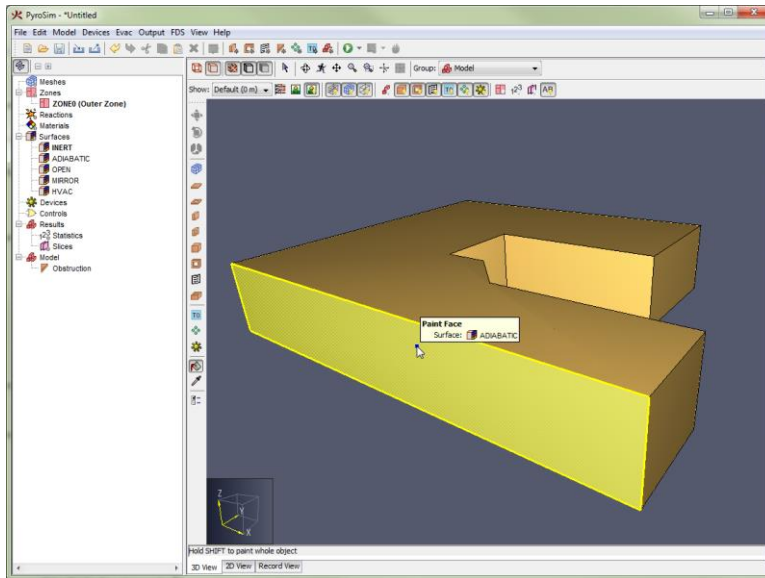

Figure 8.33. An obstruction face highlighted by the paint tool
2. Hover the cursor over the desired face to paint. If the face can be painted with the current surface/color, the face will highlight yellow as shown in Figure 8.33.